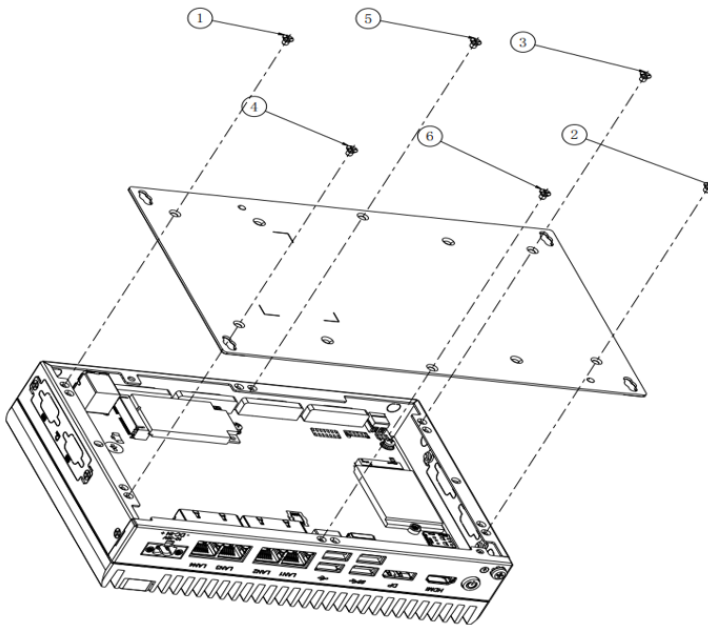

Figure 3.1-1
1. Remove six M3x4 screws from the bottom cover, as shown in Figure 3.1-1.